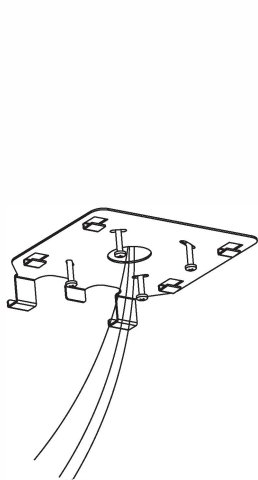

FIG. 9
4. Install the mounting plate on the mounting surface. See Fig. 9.